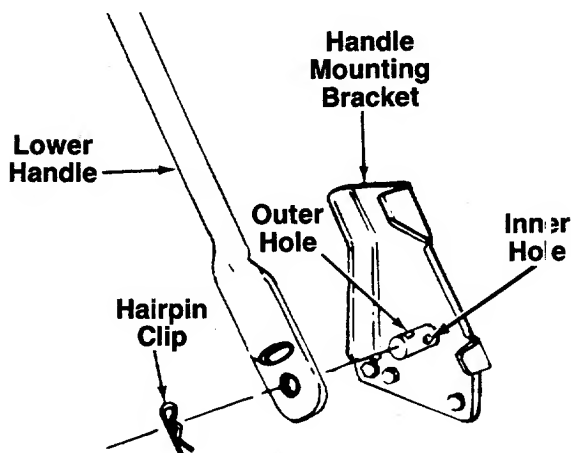

FIGURE 1.
2. Using a pair of pliers, squeeze one leg of the lower handle against the handle mounting bracket. Insert the hairpin clip into the inner hole on the weld pin. See figure 1. Repeat on other side.